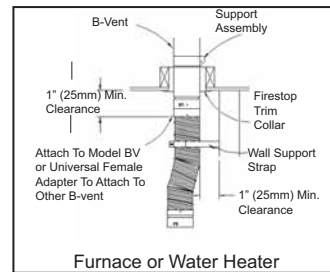

Fig. 19
4) DuraConnect II Flexible Connector is Listed by Underwriters Laboratories (UL) for 1" (25mm) airspace clearance-to-combustibles in an unenclosed installation. THIS PRODUCT SHOULD NOT BE FULLY ENCLOSED OR PASS THROUGH A COMBUSTIBLE AREA SUCH AS A CEILING, WALL OR ROOF JOIST.
5) Use DuraConnect II (combination) Wall/Ceiling Support Spacers as necessary to assure correct clearances are maintained (see Fig. 19).
2) Select a length or lengths of flexible connector sufficient to extend from the Type B Gas Vent (which should be protruding into the appliance room) to the appliance to be connected. If the inlet of the existing Type B Gas Vent system is not compatible with the male end of the flexible connector, use a Model BV Universal Female B-Vent Adapter or a Universal Female Flexible Connector which are UL Listed and designed to adapt to most manufacturer's Type B Gas Vent (See Section 3). Insert the outlet (male) end of the Flexible Adapter into the inlet of the gas vent until it fully engages. Use #8x1/4" sheet metal screws to secure in place. (See Figure 19).